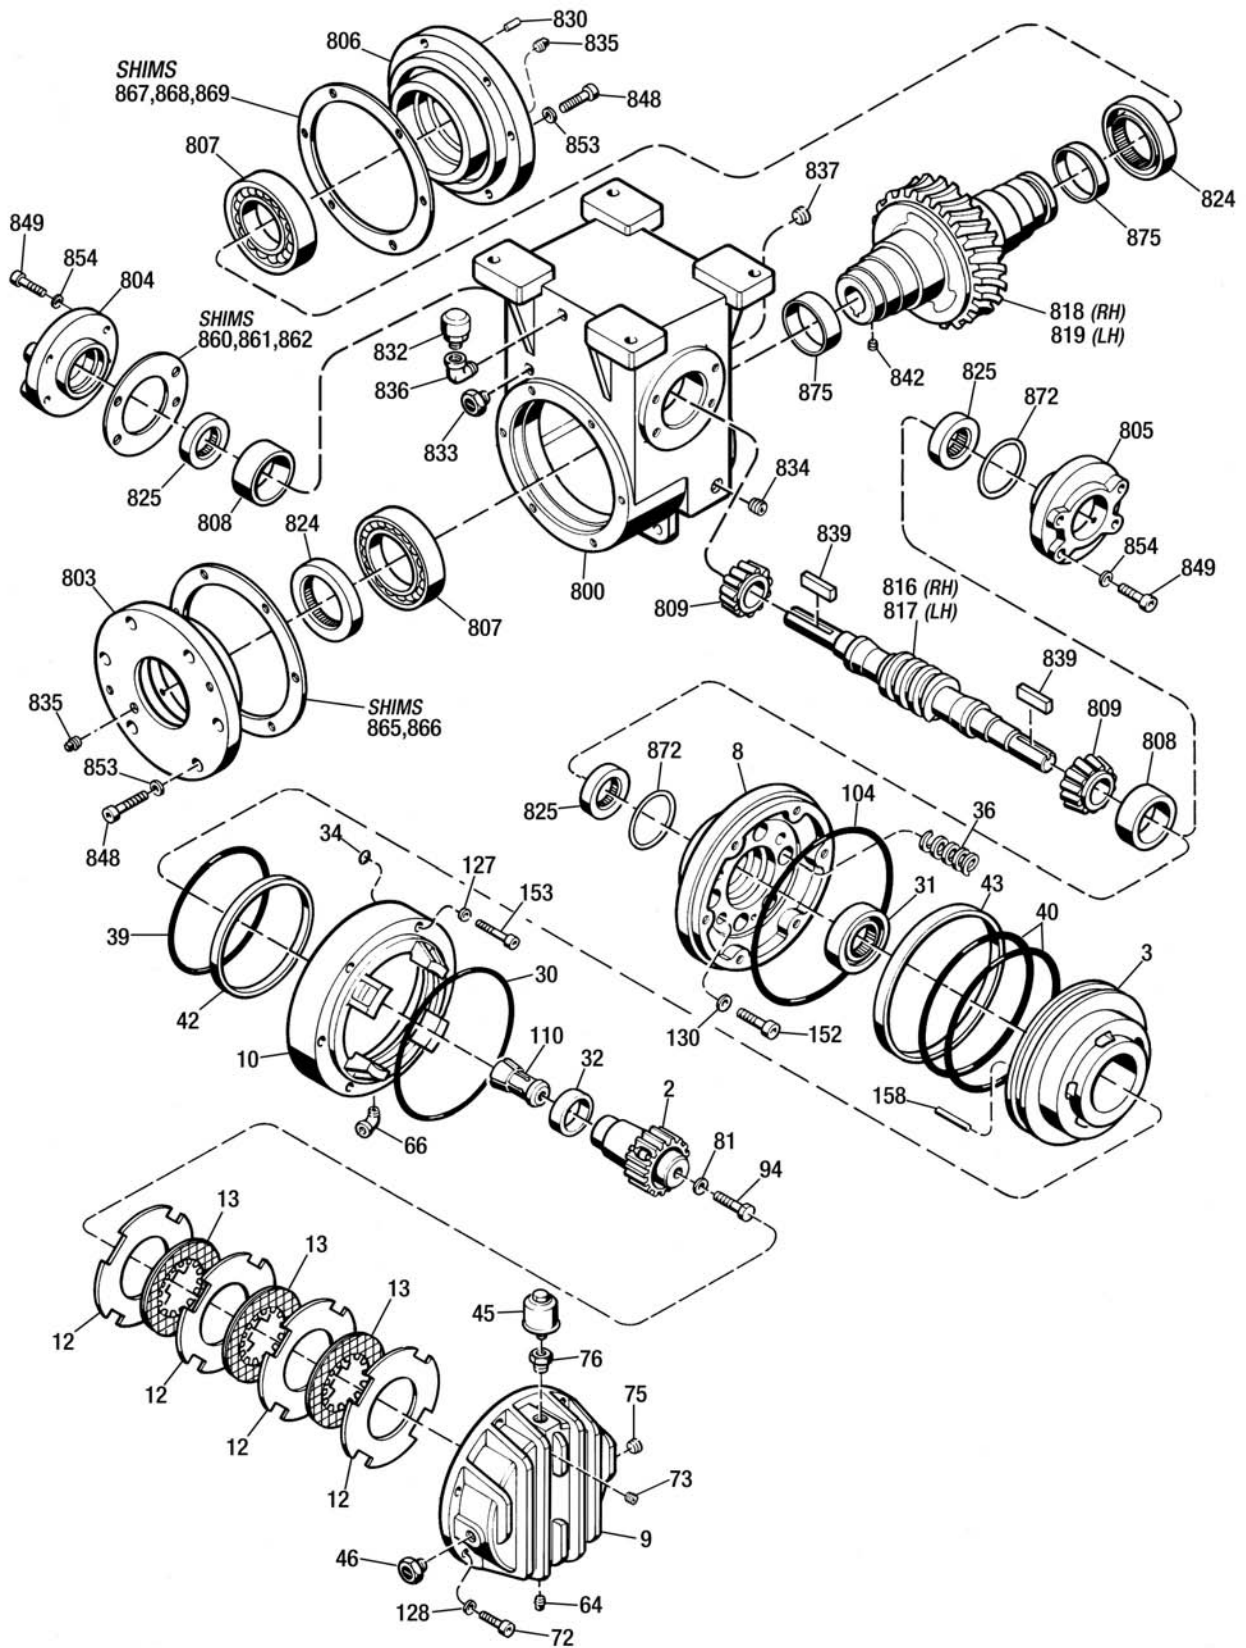

Figure 7.1 - GRB-50 Posistop Brake and Worm Gear Reducer
16. Assemble the Brake Stack, which consists of (4) Drive Plates (#12) and (3) Friction Discs (#13), onto the spline of the Hub (#2). Start with a Drive Plate (#12), then a Friction Disc (#13), until completed. (See *Figure 7.1*)